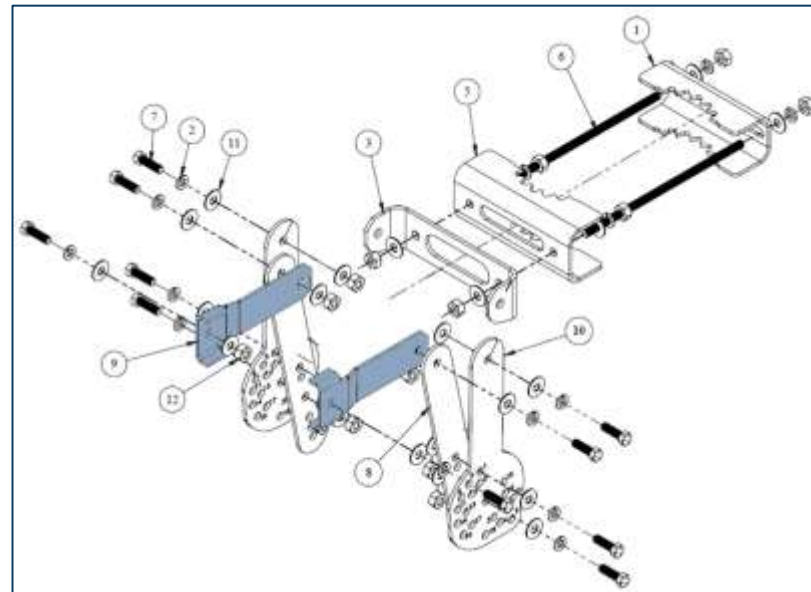

Figure 5: Top mount
3. Install top mount pieces—back grip bracket 1, anti-rotation bracket 5, single mount adapter 3, antenna linkage arm 8, tilt select arm 10, and MX08 extension bracket 9 (highlighted blue)—onto antenna as shown in *Figure 5* using threaded rods 6 and the following 3/8" hardware: 2, 7, 11, and 12.